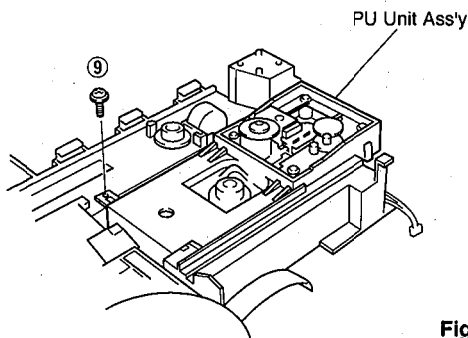

Fig. 4
- a. Remove 1 screw ( ⑨ ) and then remove the PU Unit Ass'y as shown Fig. 4.